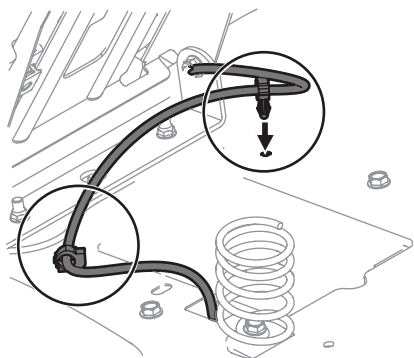

Figure 3
- Using the harness clip attached to the harness, secure the excess wire to the fender by snapping the harness clips in place as shown in Figure 3.